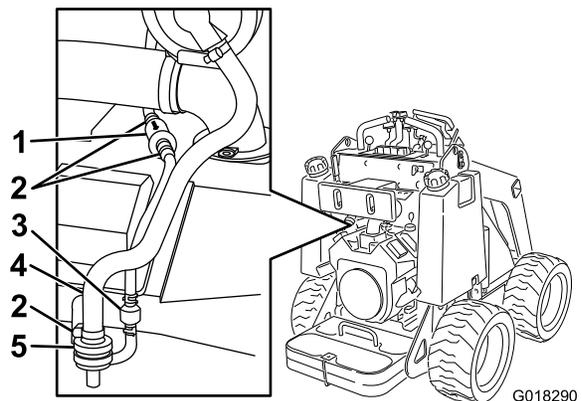

Figure 21
3. Loosen the hose clamp above the carbon-canister air filter (Figure 21).
4. Remove and discard the air filter (Figure 21).
5. Install a new filter into the hose and secure it with the hose clamp (Figure 21).
3. Move the spring-type hose clamps on both sides of the carbon canister purge-line filter away from the filter (Figure 21).
4. Remove and discard the purge-line filter (Figure 21).
5. Install a new filter into the hose with the arrow on the filter pointing toward the check valve and secure it with the hose clamps (Figure 21).